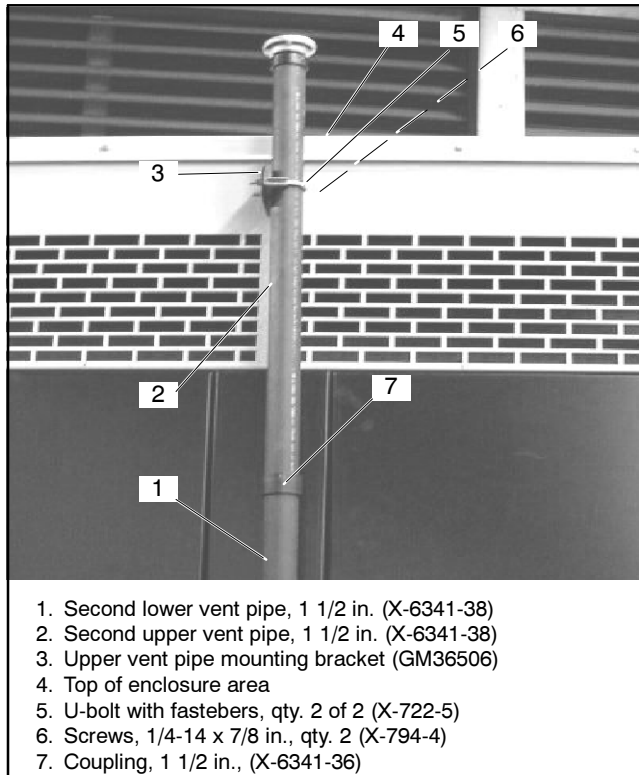

Figure 21 Upper and Lower Vent Pipe Assembly Typical
- 2.3.7 Place second 1 1/2 in. upper vent pipe X-6341-38 into third 1 1/2 in. coupling X-6341-36. See Figure 21.
- 2.3.8 Slide upper vent pipe mounting bracket GM36056 subassembly to mounting area near the top of the enclosure. See Figure 21.
- 2.3.10 Remove second 1 1/2 in. upper vent pipe X-6341-38 and upper vent pipe bracket subassembly from third 1 1/2 in. coupling X-6341-36. See Figure 21.
- 2.3.13 Use PVC adhesive and attach the bottom of second 1 1/2 in. upper vent pipe X-6341-38 to the top of third 1 1/2 in. coupling X-6341-36. See Figure 21.
Note: Third coupling X-6341-36 was previously attached to second 1 1/2 in. lower vent pipe X-6341-38. See Figure 21.